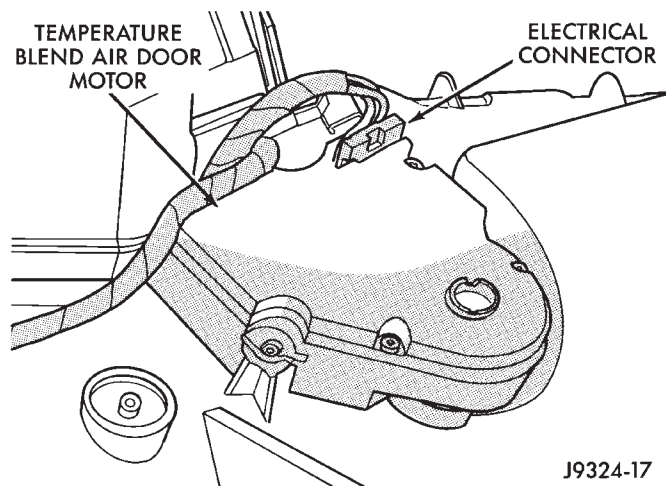

Fig. 19 Temperature/Blend Air Door Motor
- (1) Disconnect the electrical connector (Fig. 19).
- (2) Remove the retaining screws.
- (3) Remove the temperature/blend air door motor (Fig. 19).